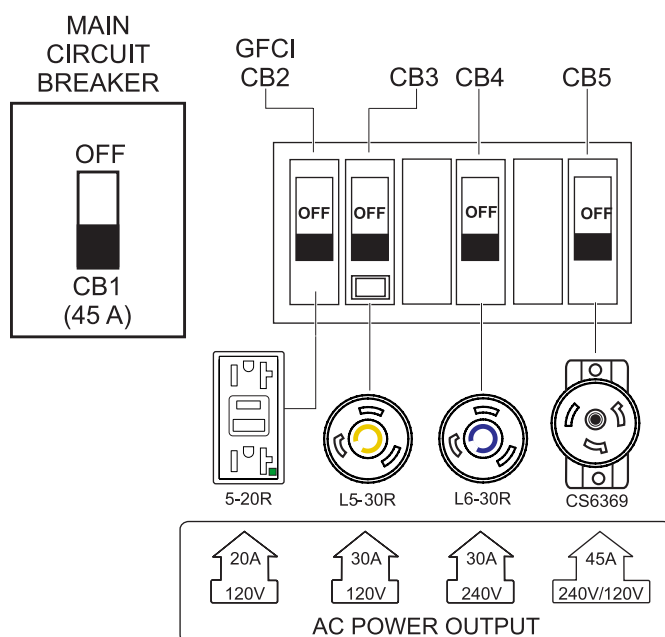

Figure 23. Circuit Breakers (OFF)
1. Place **ALL** circuit breakers (Figure 23) in the **OFF** position.